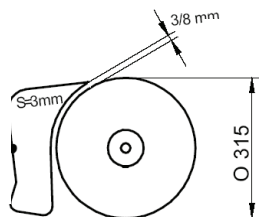

FIG.10-A
- The distance between the wedge and the blade is 3 to 8 mm (fig. 10-A).